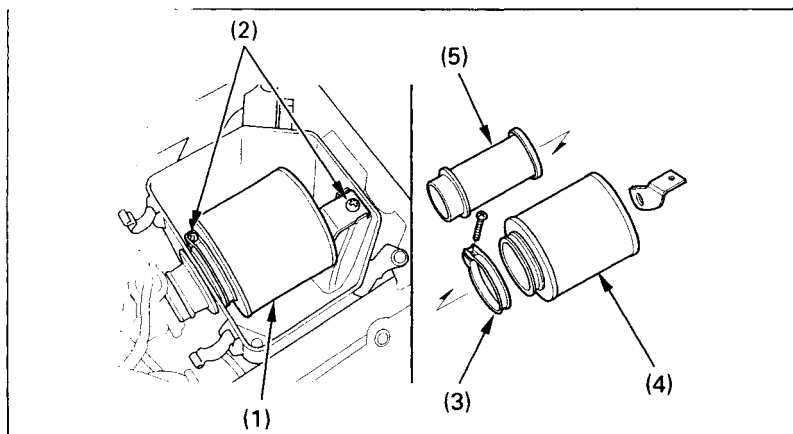

Fig. 4-5 (1) Air cleaner assembly (4) Air cleaner
3. Remove the screws (2) (Fig. 4-5) and remove the air cleaner assembly (1) from the air cleaner housing.
4. Unscrew the clamp (3).
5. Remove the air cleaner (4) from the air cleaner body (5).